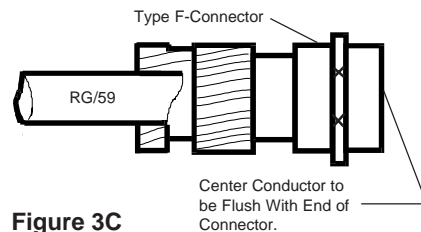

Figure 3C
STEP 7. Screw the F-connector onto the cable jacket until the Dielectric butts against the inner retaining ring. Cut the center conductor off flush with the end of the connector. See Figure 3C.